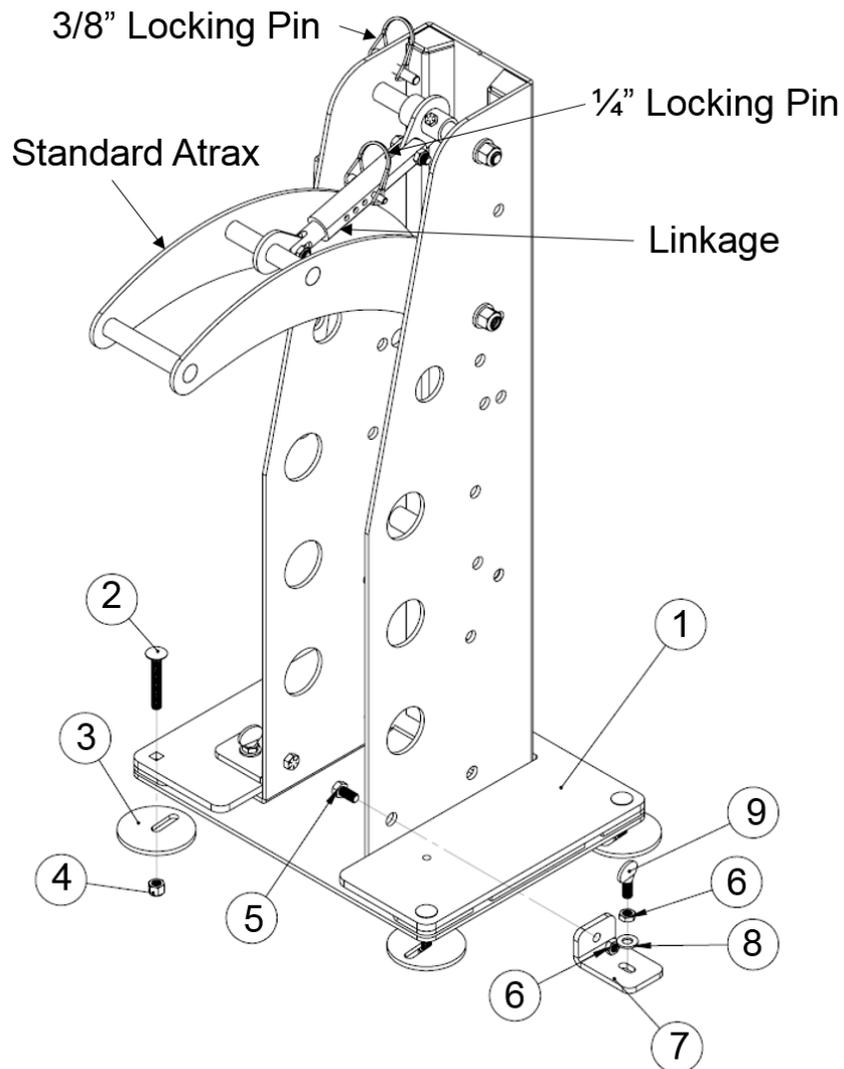

Figure 1 – Ensure quick attach hardware is tightened and rack is secure before installing bike.
- The rack should be fully assembled upon delivery to fit tire diameters 26" to 28". Insert inner linkage into outer linkage and insert locking pin (Fig.2, pg.7) into linkage holes to hold Atrax (Fig.1, pg. 5). The location of this locking pin will vary depending on your specific size of tire. Correct placement is described in "Operating Instructions" (pg. 5). Refer to Figure 1 (pg. 5) for final assembly schematic. Note: should you have a dirt bike tire smaller than 26" refer to Tables 4,5 (pg. 7,8) for correct hole assembly and instructions.
Note: Please see Figure 1 (pg. 5) for referenced quick attach parts.